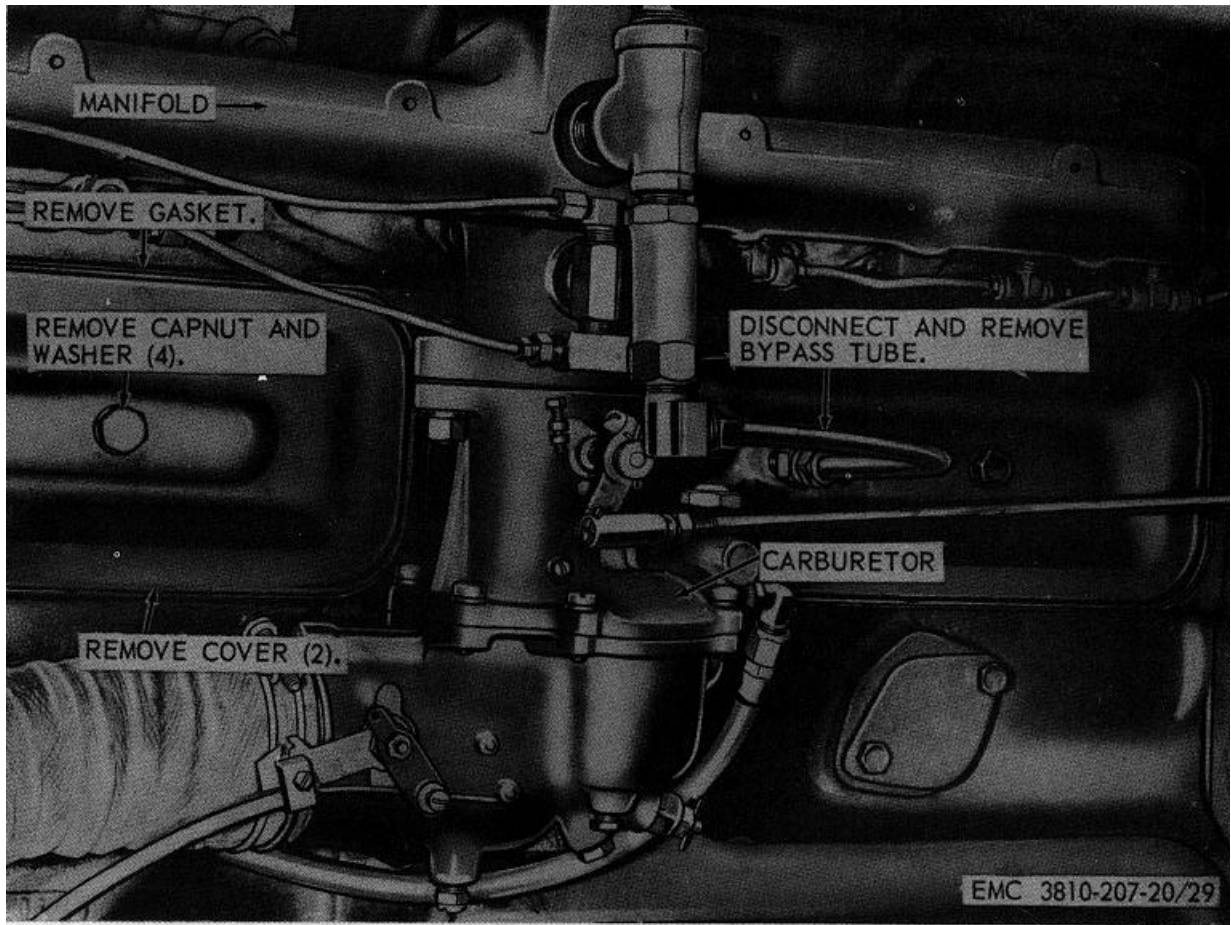

Figure 29. Valve cover assembly, removal and installation.
a. *Removal.* Remove the valve cover assembly as instructed on figure 29.
(1) Clean all parts with an approved cleaning solvent. Remove the old gasket from the valve cover.
(2) Inspect the valve cover for cracks, breaks, bends, and other damage. Replace defective cover and gasket.
(3) Inspect the bypass tube for cracks, breaks, and other damage. Replace defective bypass tube. Replace cover gasket.
c. *Installation.* Install the valve cover assembly as illustrated on figure 29.